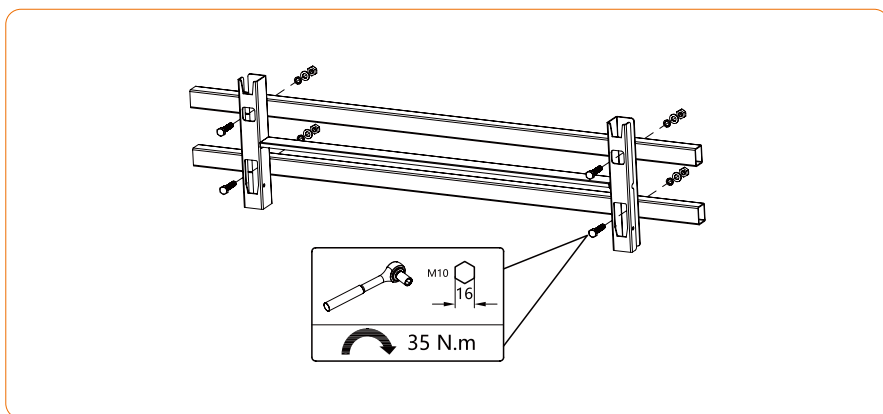

Figure 4-7 Fixing the bracket
③ Follow the instructions in the picture below to install the M10 assembling bolts (bolt, spring washer, flat washer) and tighten the bolts with torque wrench in the torque of 35N.m, see Figure 4-7 for details: